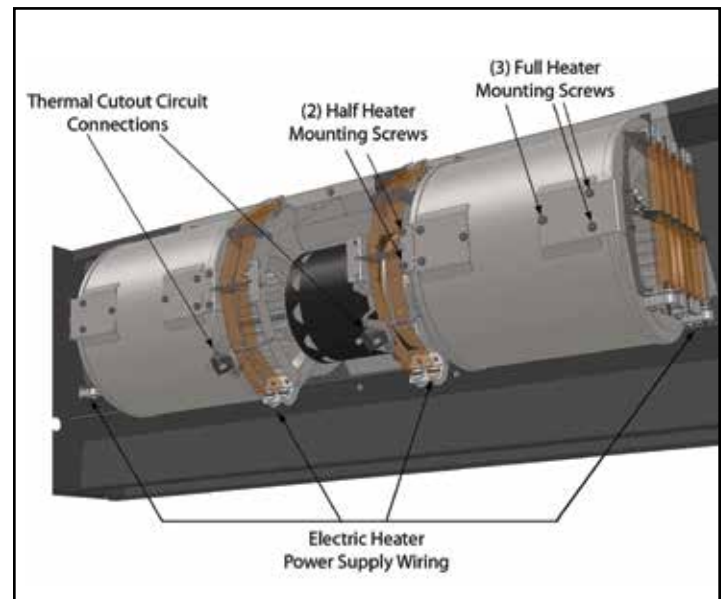

FIGURE 14 - Location of screws
3. Disconnect the wire harness from the motor(s). If the unit has electric heat, label and remove power wires and thermal cutout circuit wires from the heater assemblies. **See Figure 14.**
2. **See Figure 14.** There are (4) heater assemblies per Blower Module. All have (2) power connections. The "Half" heater assemblies also have (2) connections for the thermal cutout circuit. Label and remove all wires on the heaters to be replaced.
3. The (2) "Full" heaters are each held in place by (3) self-drilling screws that go through the heater mounting bracket into the fan housing. The (2) "Half" heaters are each held in place by (2) self-tapping screws that go through the heater frame into the mounting bracket that is attached to the fan housing. Remove all fasteners on the heaters to be replaced.